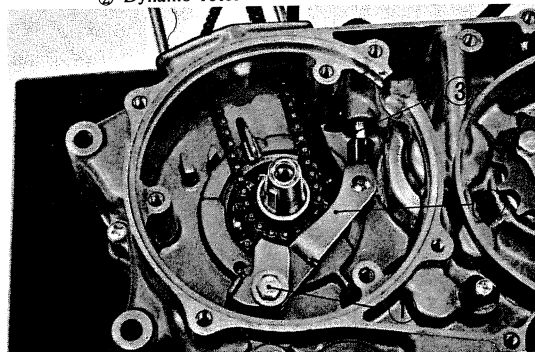

Fig. 78 ① Bolt ② Cam chain tensioner arm
- 4) Remove the cam chain adjuster nut. (Fig. 78)
- 5) By removing the tensioner pivot bolt, the cam chain tensioner and the cam chain tensioner arm can be disassembled. (Fig. 78)
- 6) By removing the tensioner arm and push rod, the tensioner adjusting bolt can be pulled out. (Fig. 78)